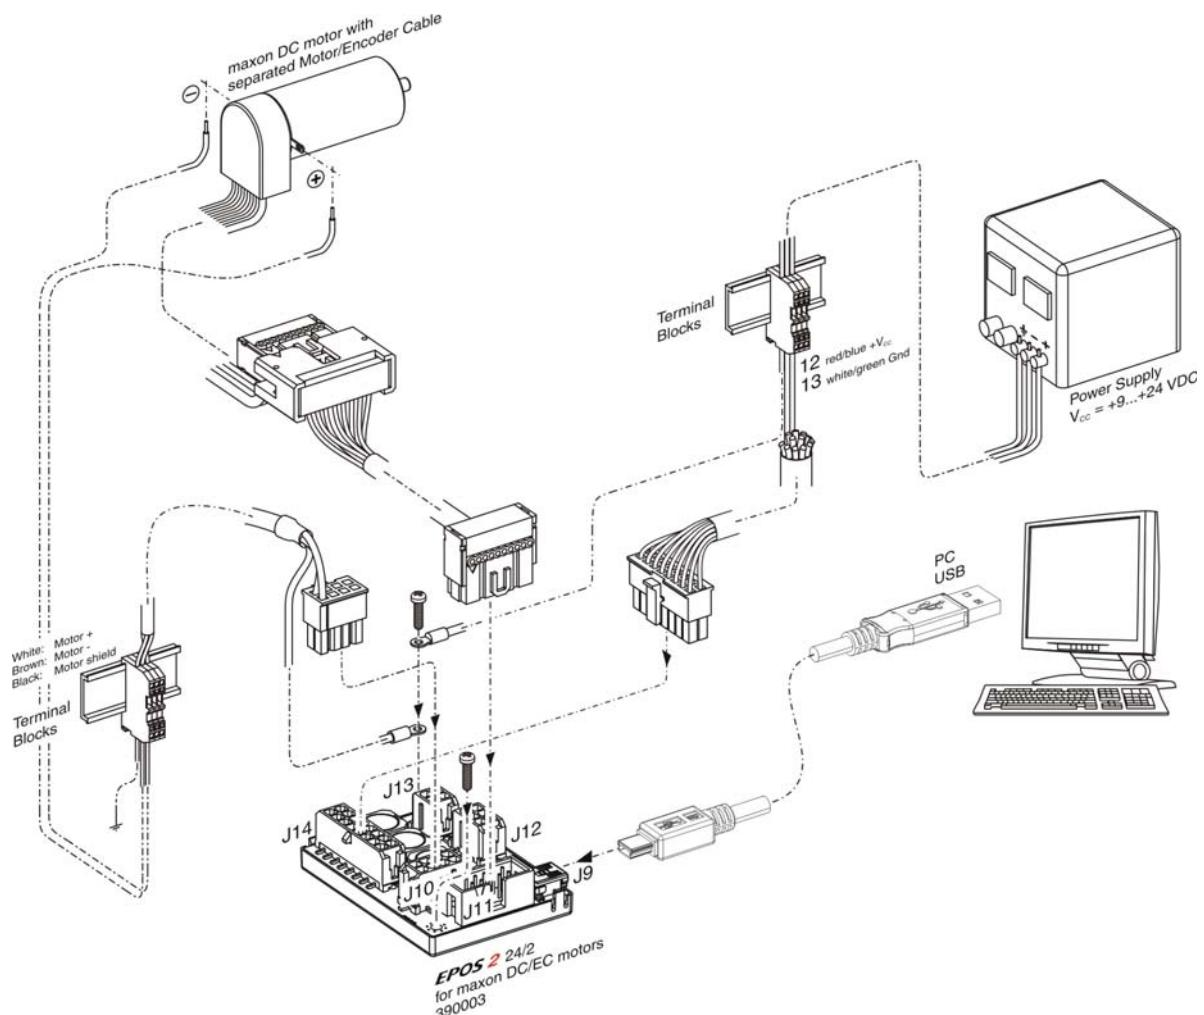

Figure 3-4 Minimum Wiring: maxon DC motor (separated Encoder Cable)
- 2) Connect maxon cable assemblies (→Table 3-6 and Figure 3-4).